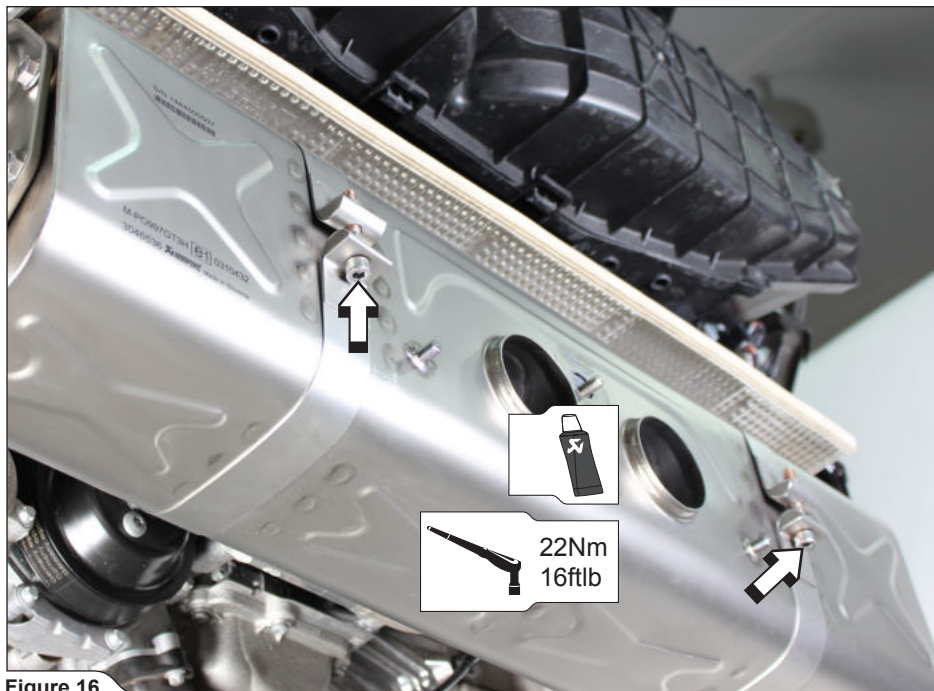

Figure 16
4. Align and center Akrapovič muffler in respect to the vehicle and tighten Akrapovič muffler's clamp bolts and flange nuts, on both sides of the muffler, to the specified torque (**Figure 16, 17**).